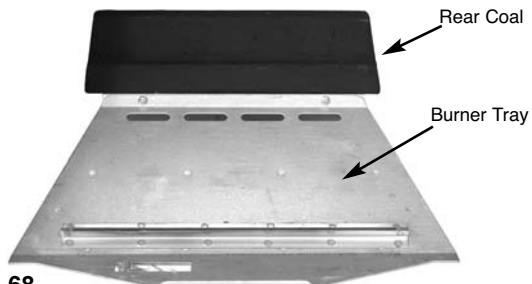

Fig. 68
1. Place the rear coal on the rear coal retainer ledge in a central position, ensuring the step portion is facing the front (Fig. 68).